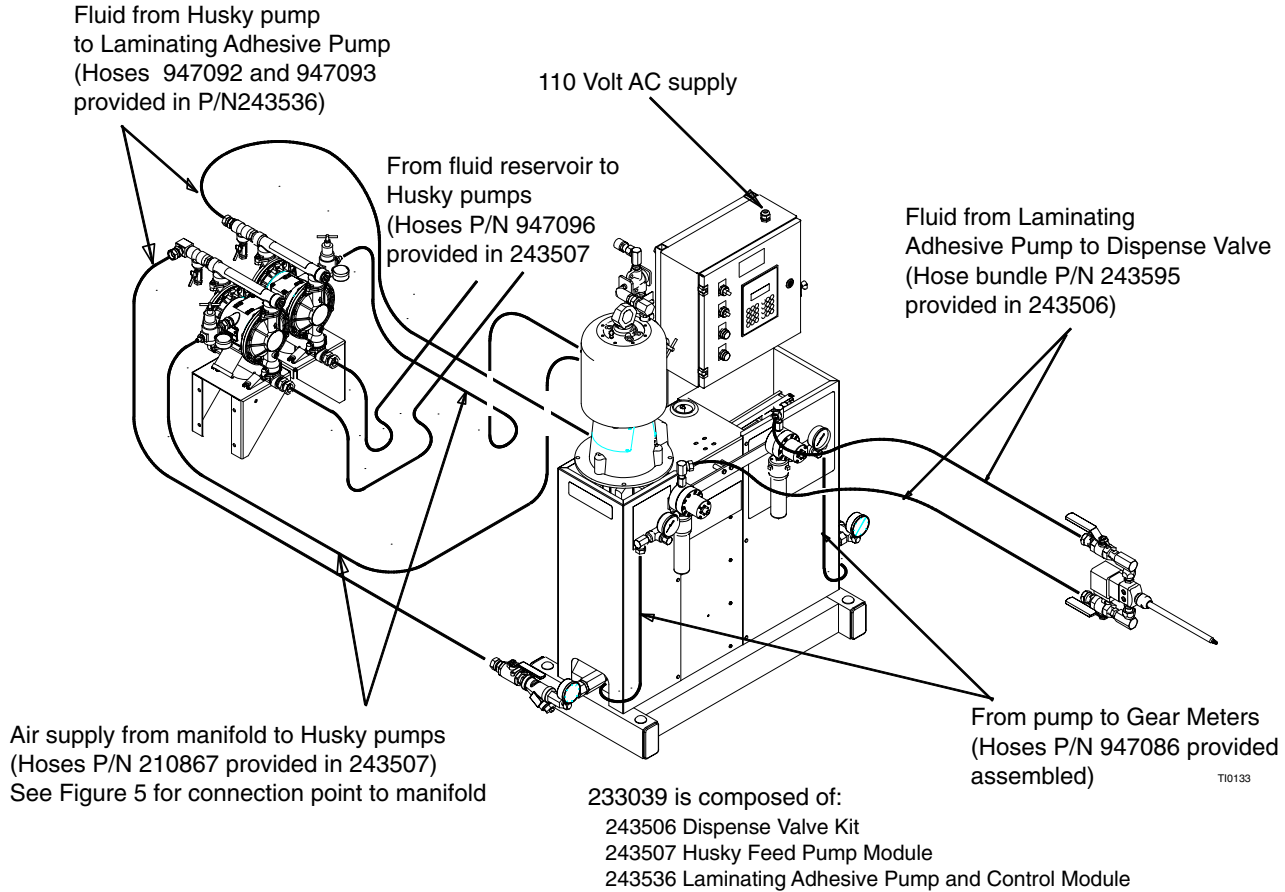
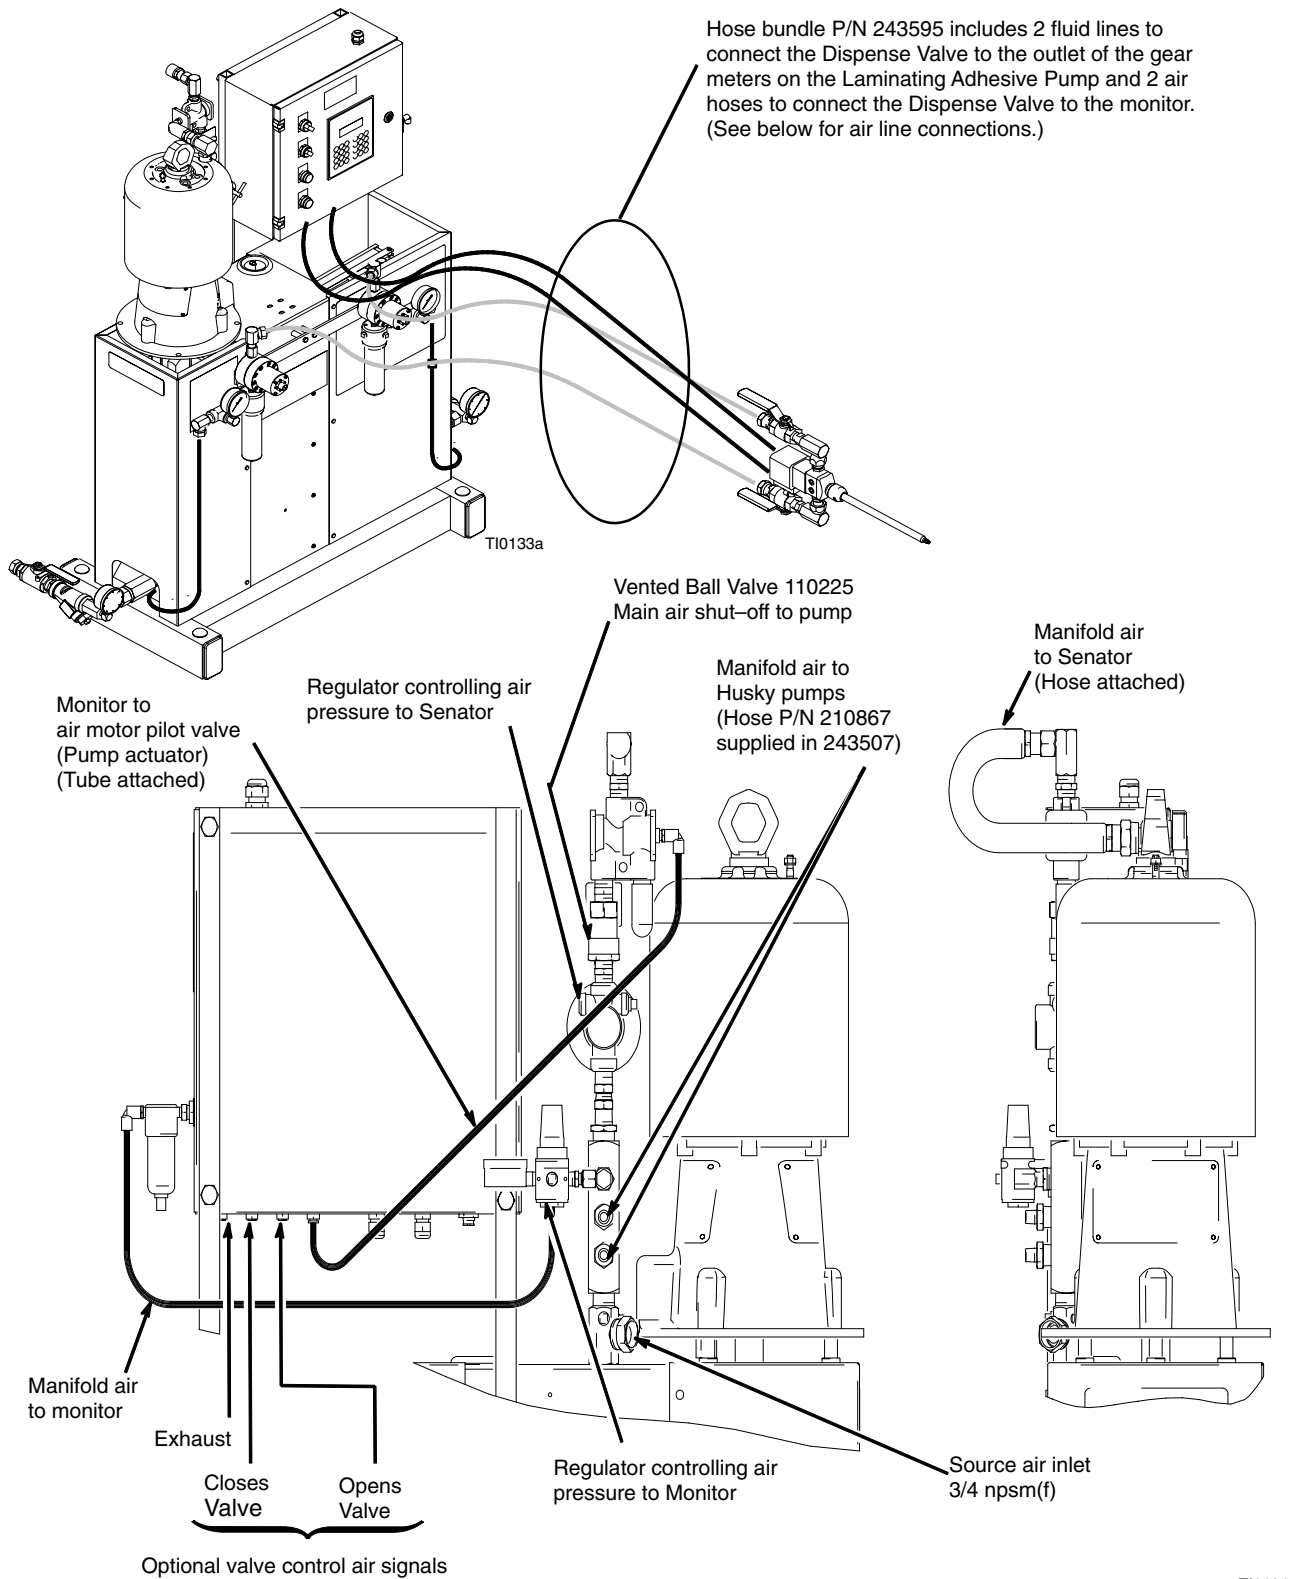

Figure 4. 233039 Typical Installation (Fluid Connections)
Figure 5. Typical Installation (Air Connections)
The Variable Ratio Proportioner Package is designed to proportion, mix, and dispense two-component fluids. The typical installation shown in Figure 4 and Figure 5 is only a guideline in setting up a complete dispensing system. For clarity, various components are shown in the correct order but may not be shown in the exact position of the installed system. For assistance in designing your system, contact your Graco distributor.
- The typical installation shown in Figure 4. **233039 Typical Installation (Fluid Connections)** is only a guide for installation.
Attach hoses to the fluid inlet ports as shown in Figure 4).
Attach hoses as shown in Figure 4.
1. Attach the fluid lines to the outlet ports at meters as shown in Figure 4.
2. Attach the air lines to the ports on the control box as shown in Figure 5.